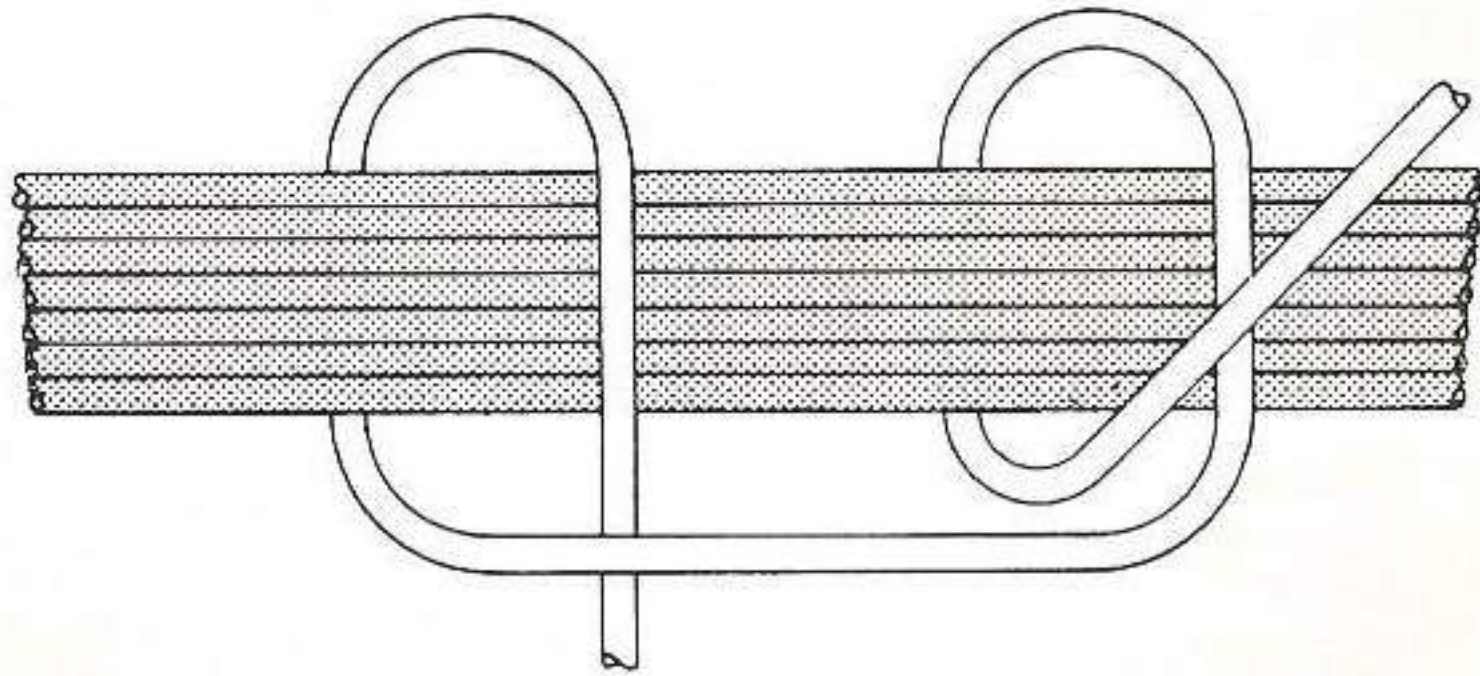

Figure 28. Clove Hitch Started
d. In both of the above operations a clove hitch secured by a square knot must be employed. A clove hitch can also be used as a temporary tie to hold wires straight and can be employed to help determine the proper routing procedure in a box assembly. The clove hitch should be constructed as shown in figures 28 and 29.